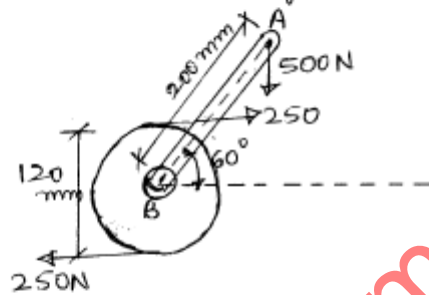

Fig. 4. 2(b)
- (b) Replace the couple and force by a single force-couple applied at A for the lever shown in Fig.4. Also find the distance of a point C from A where only a single force can replace the force-couple system **07**